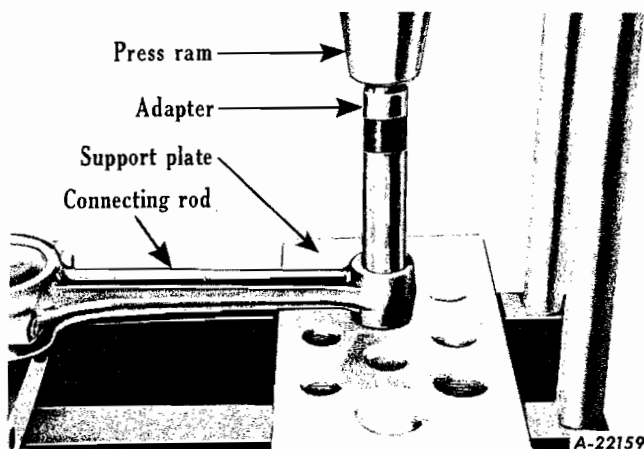
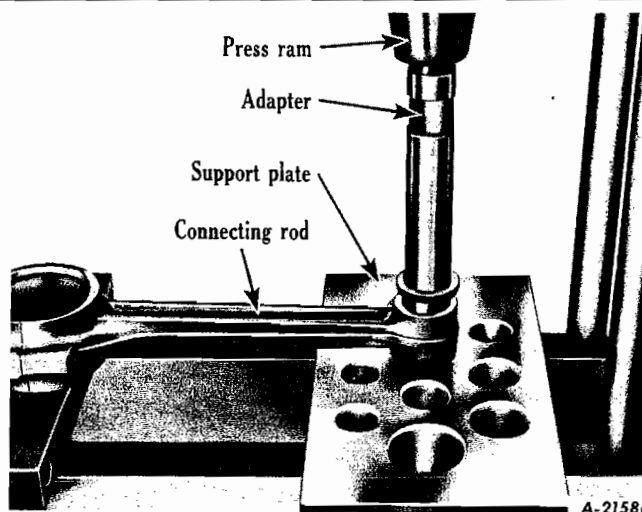
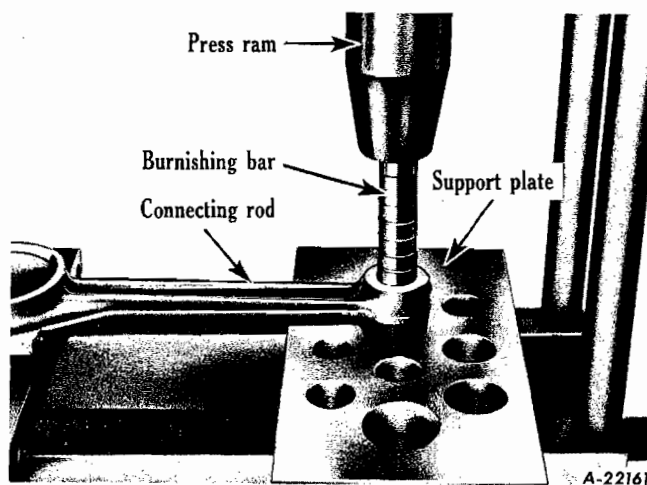

Fig. 54 - Press bushing from rod using SE-1036-4 Bushing adapter and SE-1033 support plate.
Fig. 55 - Installing new bushing in rod.
Fig. 56 - Use SE-879 Burnishing tool.
7. With properly fitting adapter, press old piston-pin bushing from connecting rod (Fig. 54). Place new piston-pin bushing in position, align oil hole in bushing with oil hole in connecting rod, install bushing with a .0055" to .0035" press fit (Fig. 55). Burnish bushing into place in the connecting rod (Fig. 56).